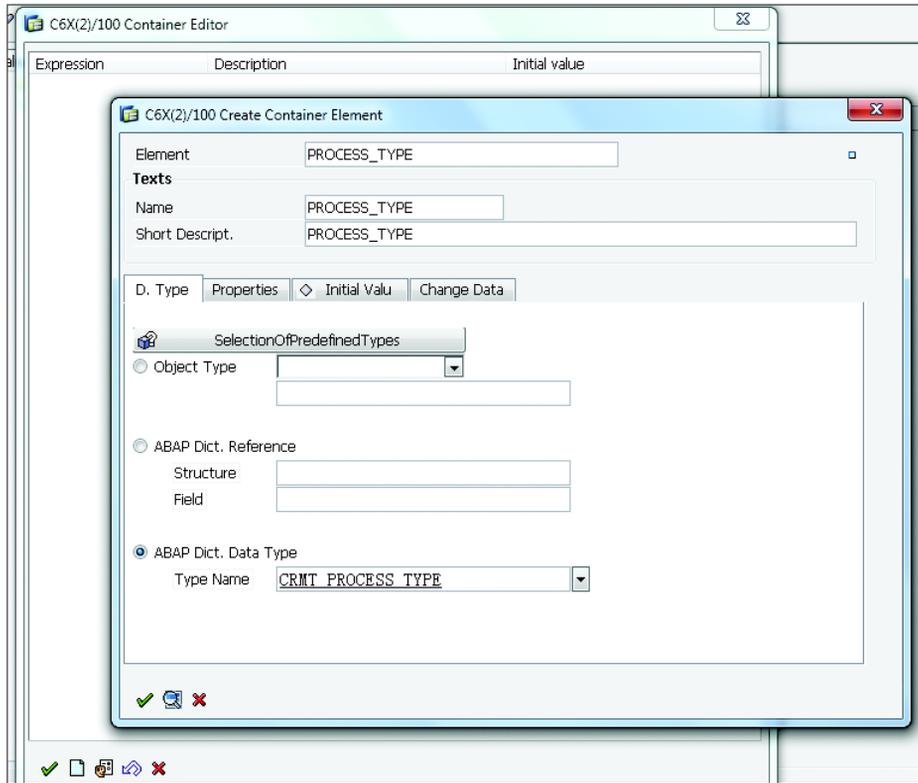

Figure 6.9 Defining the Container Element
- Assign the processing parameters by clicking EDIT on the method call on the popup page to add the activity type that needs to be created after the sales order is rejected. As shown in Figure 6.9, the ELEMENT is PROCESS_TYPE, and the TYPE NAME is CRMT_PROCESS_TYPE under the ABAP DICT. DATA TYPE radio button.